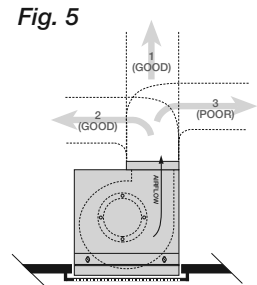

Fig. 5
3. Installation of ductwork is critical to the performance of the fan, shown in Fig. 5. Straight ductwork (1) or ductwork that turns in the same direction as the wheel (2) is recommended. Ductwork turning opposite the wheel direction (3) will cause turbulence and back pressure resulting in poor performance.